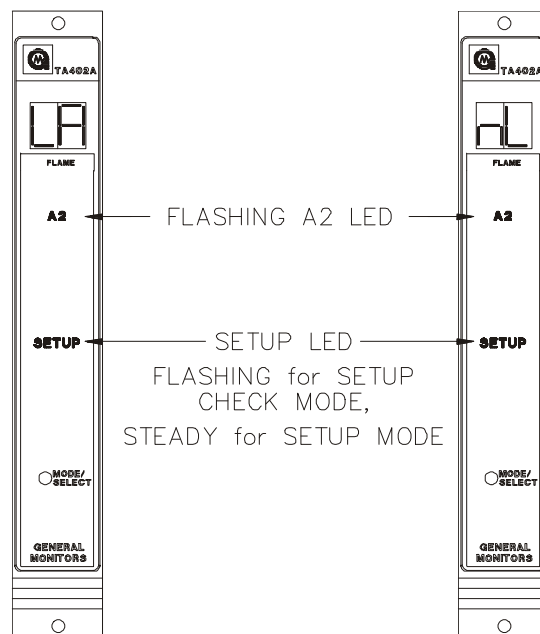

Figure 17
- The **A2** LED on the front panel will be flashing while the latching/non-latching option is displayed (figure 17). The display will indicate the current selection, (**nL** or **LA**). Press the Mode/Select switch until the desired option is displayed. Latching is the factory default for this selection.